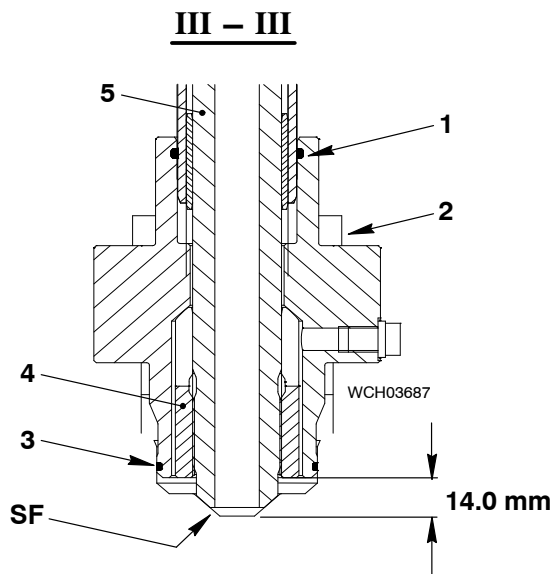

Fig. 12
- 1) Do a check for damage of the O-rings (1 and 3, Fig. 12). If necessary, replace the O-rings.
- 2) Remove all of the protection from the sealing faces (SF).
- 3) Make sure that the claw (4) is correctly attached to the HP fuel pipe (5).
**Note:** You can adjust the claw (4) with an open-ended wrench.
- 4) Make sure that there is a distance of 14.0 mm between the end of the HP fuel pipe (5) and the claw (4).
- 6) Apply Never-Seez NSBT to the threads of all the screws (2).